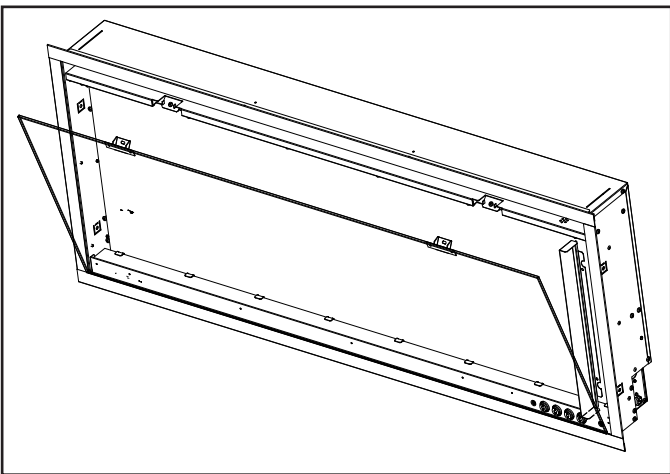

Figure 4.12 Glass Front Installation
1. Angle the glass to place the bottom edge into the channel behind the outer trim. See Figure 4.12.